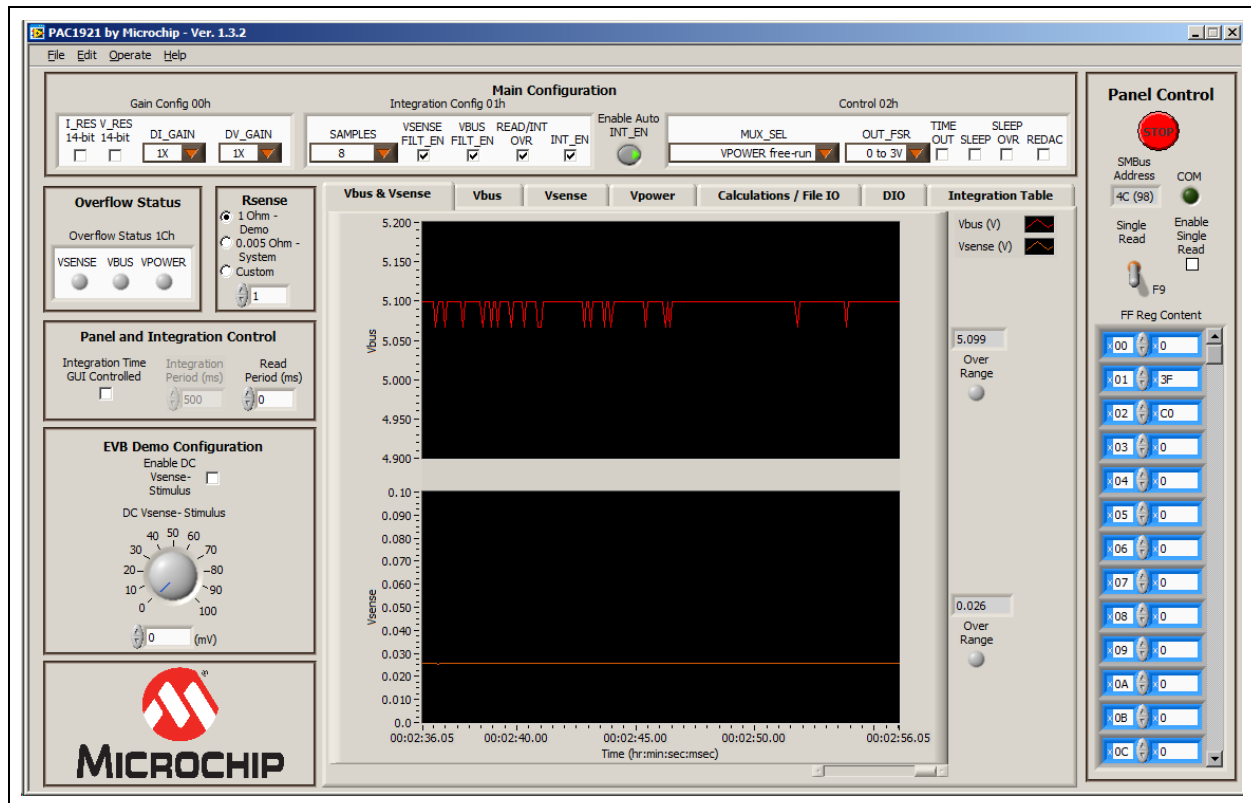

FIGURE 4-25: Increased Sample Effect.
8. Change the number of “SAMPLES” to 8 and observe the improvement in the plots on the **Vbus & Vsense** tab, as shown in Figure 4-25.